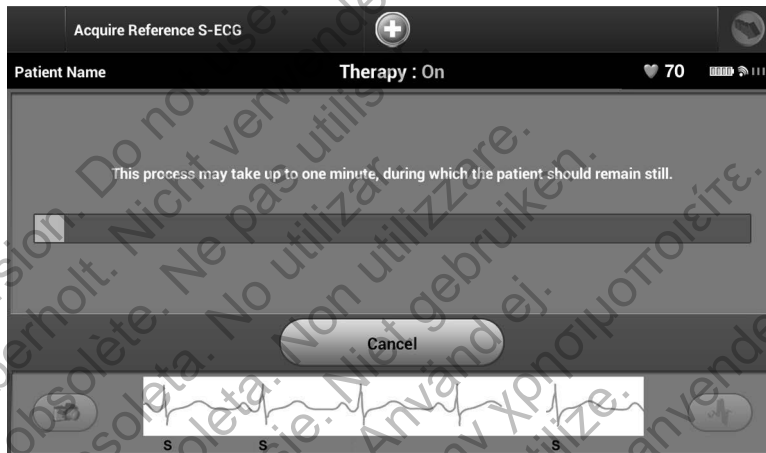

Figure 48: The patient should remain still while the Reference S-ECG is acquired
2. Select Continue to acquire a Reference S-ECG. The programmer will begin acquiring the Reference S-ECG. A message will appear requesting that the patient remain still (Figure 48). The reference S-ECG QRS template is recorded and stored in the pulse generator.